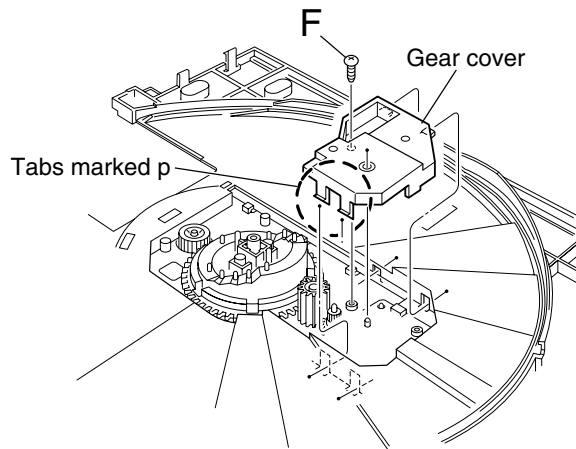
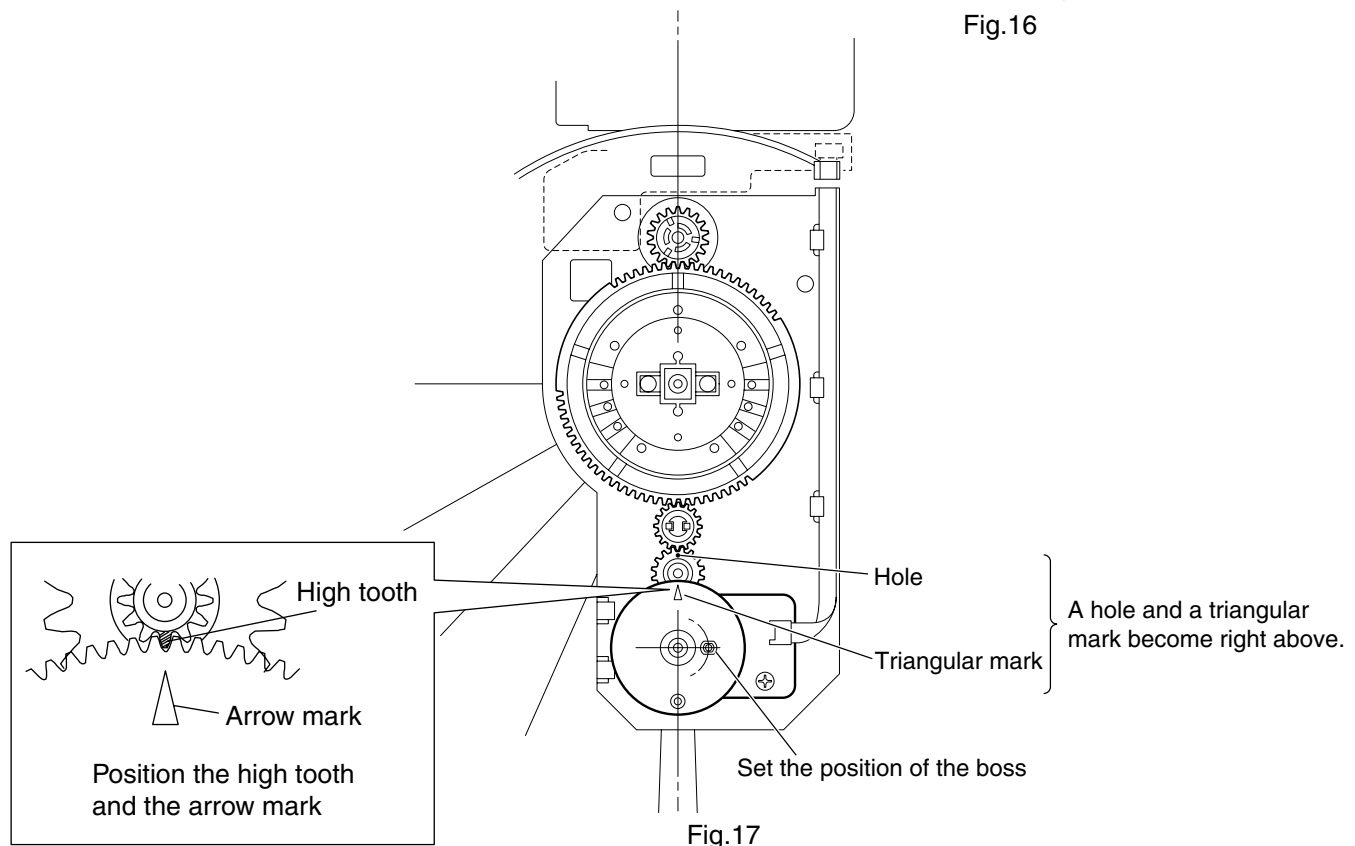

Fig.15
Fig.17
**(See Fig.15 to 17)**
• Prior to performing the following procedure, remove the main tray cover, the U/D cam (U) and the sub trays.
2. Remove the cam gear (2) upward.
**CAUTION:** When reattaching the cam gear (2), set the position of the boss and the triangular mark and hole as shown in Fig.17.